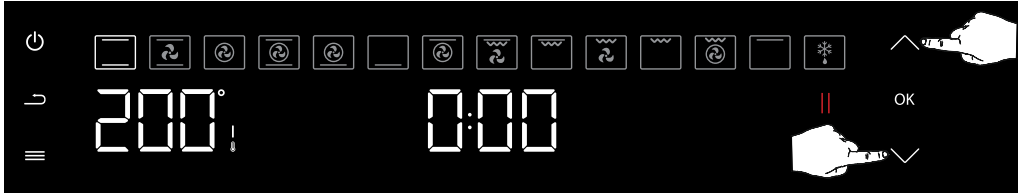

Figure 15
2. In the "Cooking" menu, the display of the active setting first changes to the cooking functions, which can be switched between by pressing the direction keys up (⬆) or down (⬇). (see figure 15) Press the confirm button (OK) once to select the desired cooking function.